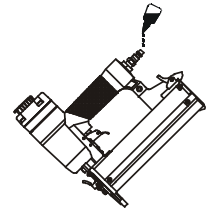

Figure 2
1. Determine if the tool needs oil and, if necessary, place two drops of oil in the AIR PLUG(79) as shown in Figure 2. If you are using an automatic in-line oiler, check and add oil if necessary.